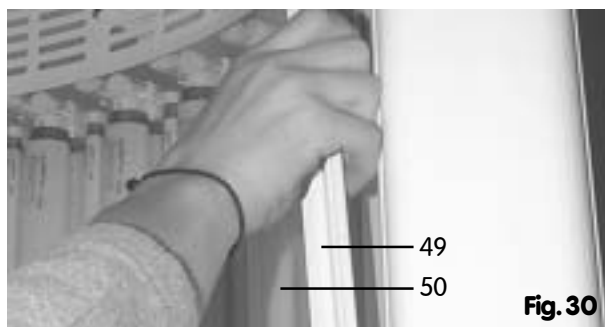

Fig. 30
To remove the acrylic plates, pull each plate forward from its position, gripping the profile bars on the side (49) from behind as shown in Fig. 30. Bend the plate (50) slightly toward the inside. Then press the plate down and out of the mounting frame grooves on the sides. The plate can now be cleaned on both sides.